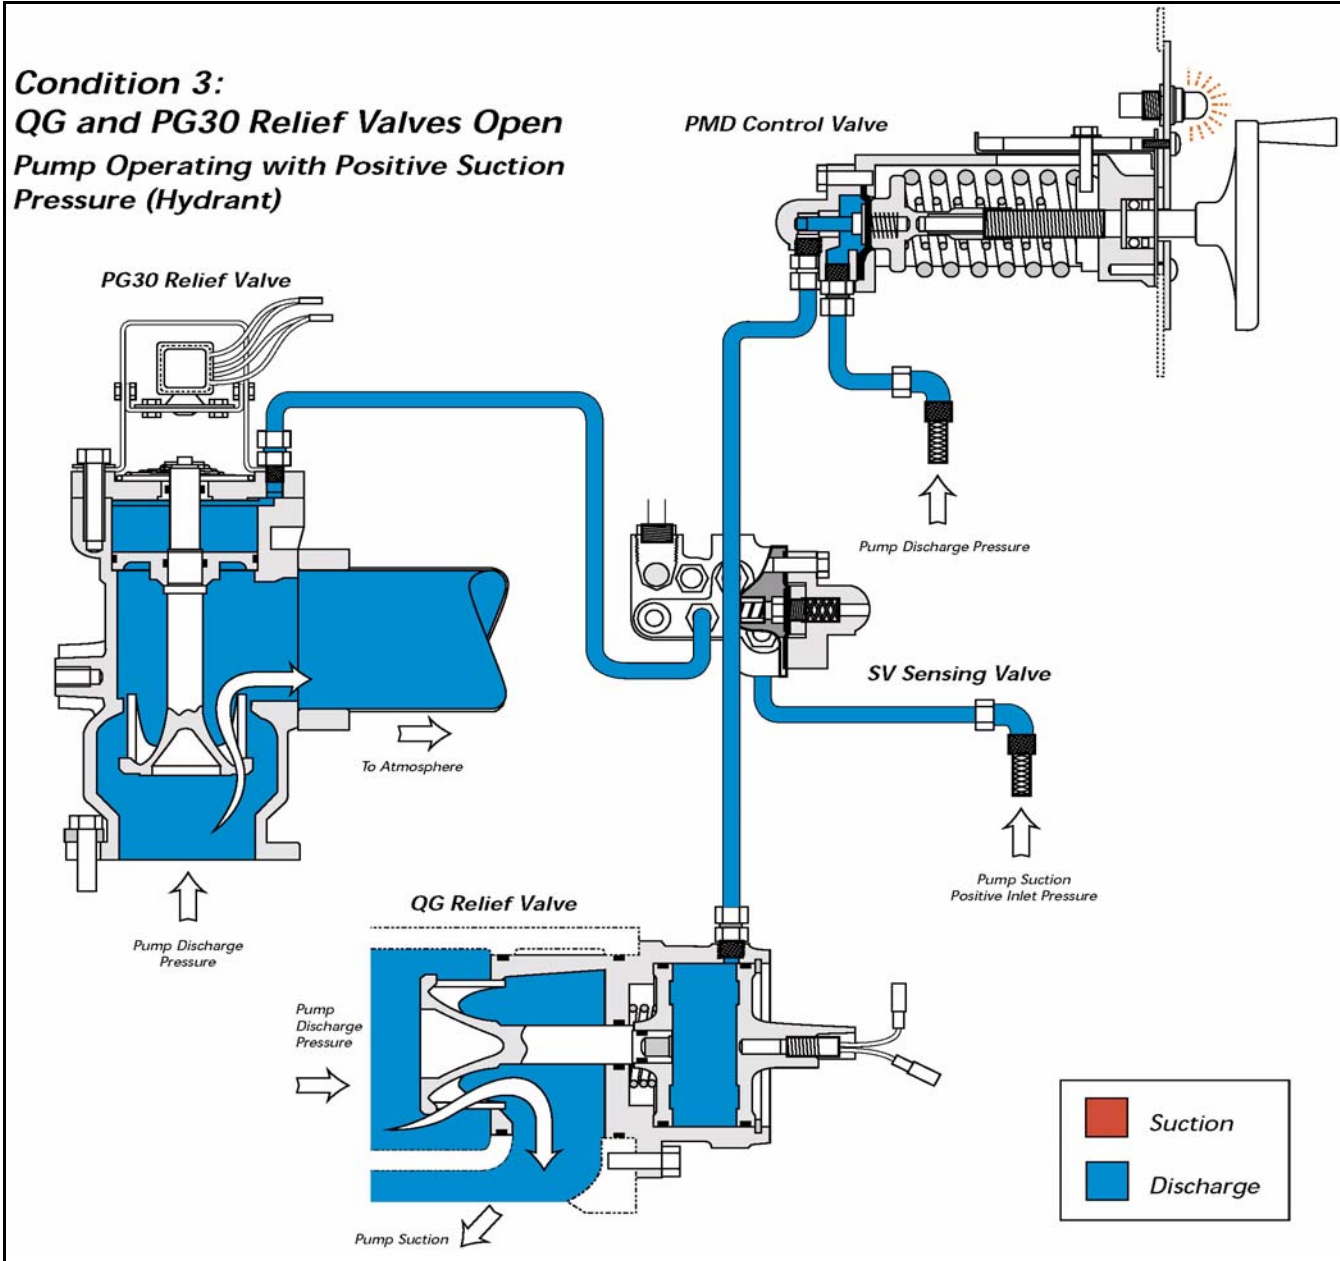

Figure 3-17: Typical TPM Relief Valve System, Condition 3
- Figure 3-17: “Typical TPM Relief Valve System, Condition 3” on page 52